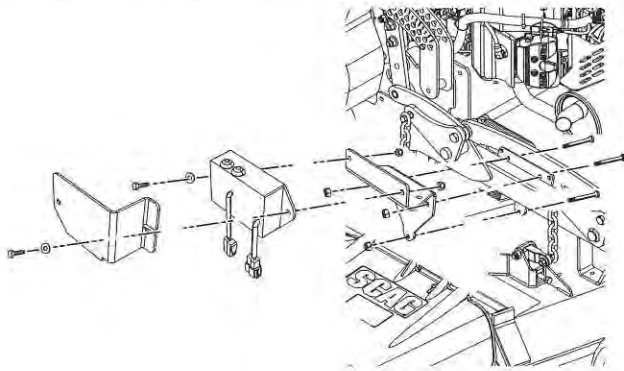

Figure 3-30. SVR11 RF Module and Mounting Bracket Installation
1. Install the RF control module inner and outer mounting brackets to the frame using three (3) 1/4 - 20 x 2 1/4" bolts and three (3) 1/4" elastic stop nuts. See Figure 3-30.